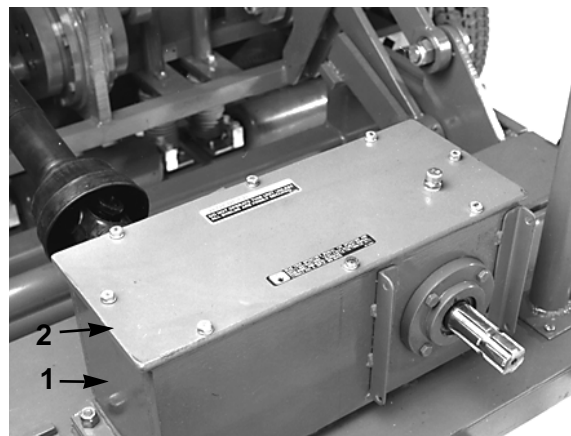

Figure 4
1. Remove the pick-off gear case cover (Fig. 4).